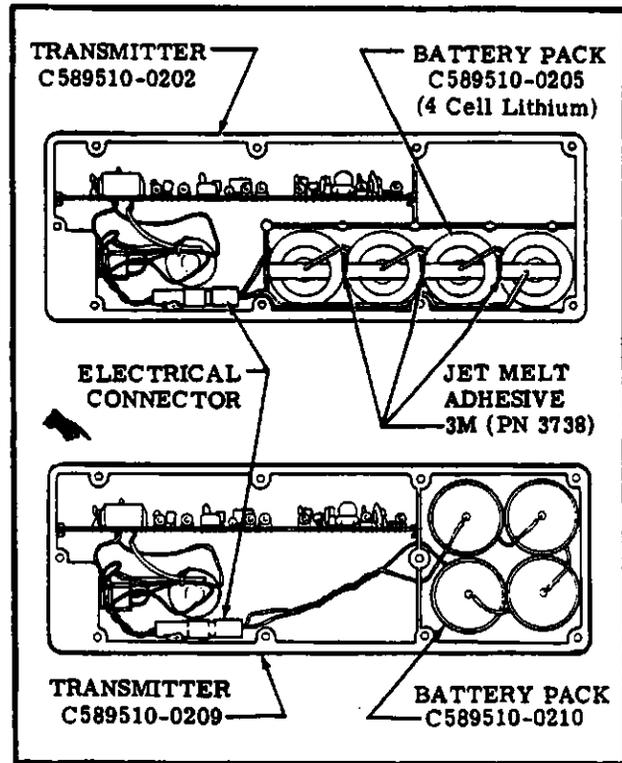

Figure 16-13. Lithium 4 Cell Battery Pack Installations
#### 16-82. REMOVAL AND INSTALLATION OF LITHIUM FOUR (4) CELL BATTERY-PACK. (Refer to figure 16-13.)
- d. Place new battery-pack in the transmitter with four batteries as shown in figure 16-13.
- e. Connect the electrical connector as shown in figure 16-13.